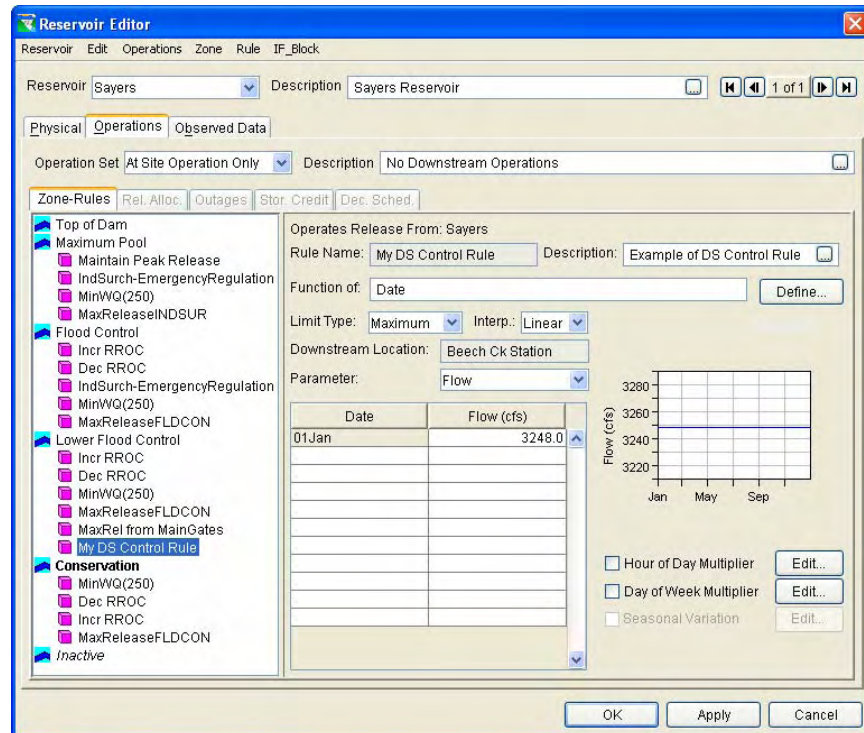

Figure 11.19 Reservoir Editor--Example of a Downstream Control Function Rule
- To define your downstream control rule, refer to Section 11.5.3 detailing how to define a Release Function rule. The Downstream Control Function rule editor is essentially the same as the Release Function rule editor. The only significant difference is that you have the option of defining the rule as a minimum or maximum **Flow** or **Stage** parameter limit at the downstream control point (see example in Figure 11.19).